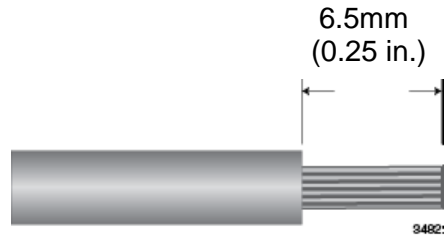

Figure 42. Stripping a Power Cable Wire
1. Strip 6.5mm (0.25 in.) of insulation from the ends of the stranded power wires with a wire insulator stripper. Refer to Figure 42 on page 93.